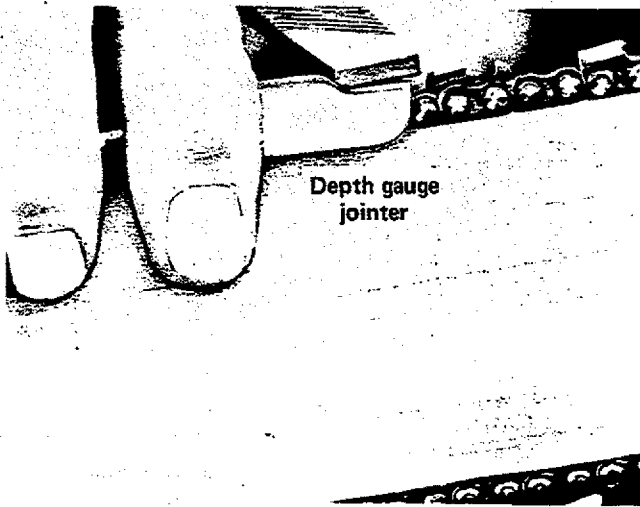

Fig. 27
6. To set all depth gauges at the same level, place the Depth Gauge jointer, Part No. 55005, over each depth gauge and file the depth gauge with a flat file until it is level with the jointer, then round off the leading edge of each depth gauge. See Figure 27. File the depth gauges after each four to five times the chain is filed. It is not necessary to file depth gauges after every chain sharpening. When sharpening the chain, also check the bar to see if there are any burrs on the rails of the bar, especially around the nose. File away the burrs with a flat file. Be sure to clean off filings.